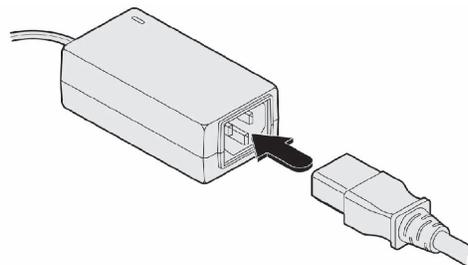

FIGURE 3-12. CONNECTING THE POWER LEAD TO THE POWER ADAPTER'S SOCKET
2. Connect the IEC connector of the supplied country-specific power lead to the power adapter's socket. See Figure 3-12.